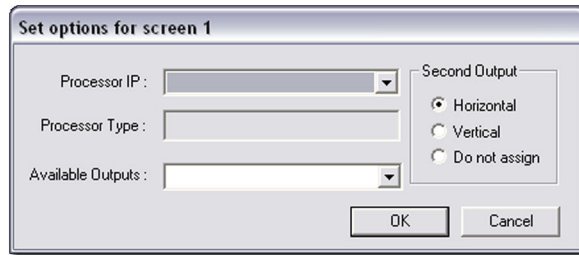

Figure 6. Set Options Dialog Box
6. In the Second Output panel, select how the secondary output should be assigned (see figure 6 on the previous page). Choose from: